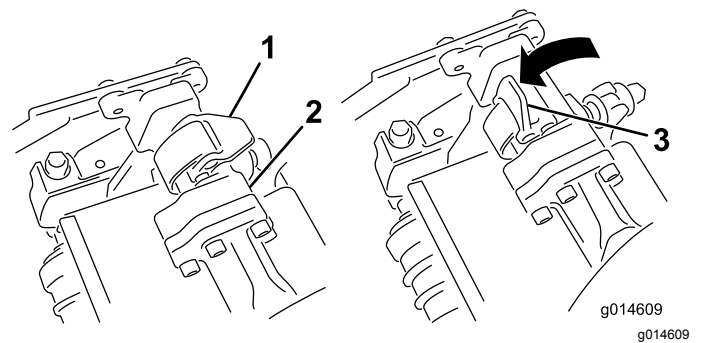

Figure 43
4. Close the latches down and around the cutting-unit bar and lock them in place (Figure 43).
4. Open the latches on the suspension-arm bar of the cutting unit you are removing (Figure 43).